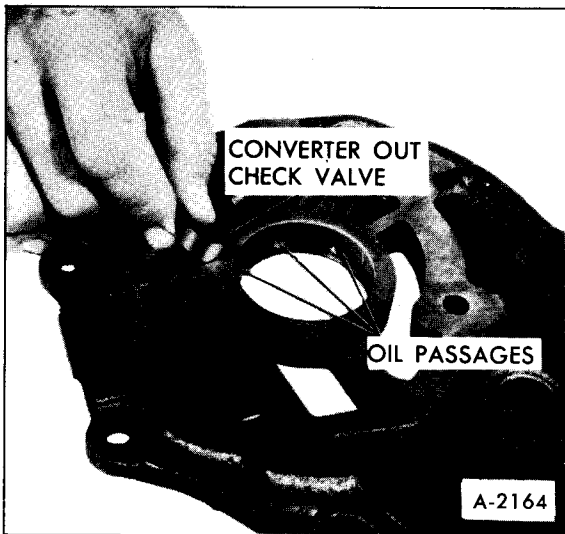

Figure 39—Converter Out Check Valve
- d. Remove converter out check valve, Figure 39.